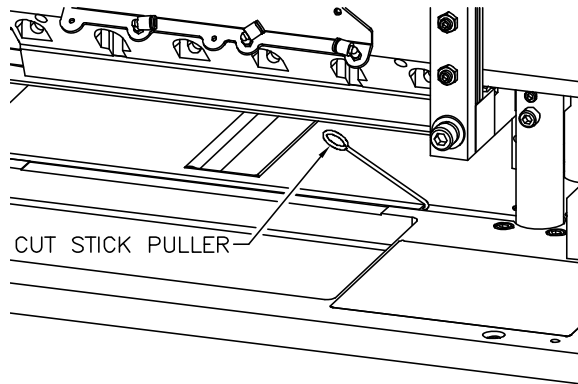

Figure 4-7. Pulling Cut Stick Up
4. Hook the Cut Stick Puller over the right end of the cut stick (Figure 4-7) with a finger in the loop of the puller. Keep the Cut Stick Puller in-line with the cut stick.
5. Pull the Cut Stick Puller at a slight angle (Figure 4-7) over the cut stick until the end of the cut stick comes out of the table.